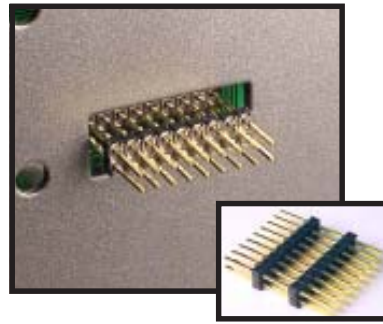

Figure 2-3; 2X9 Pin Strip Connector
- a) The 2 x 9 pin Strip Connector (Fig. 2-3), must be installed onto the Inverter Module. A properly installed strip connector will be fully seated and firmly in place.